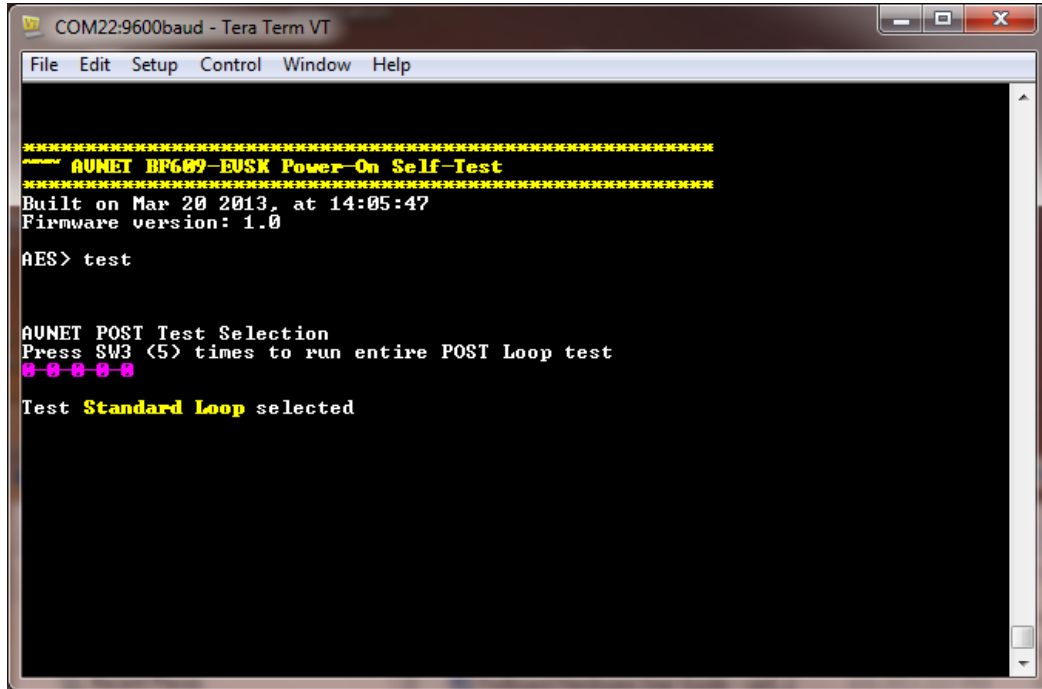

Figure 8: all POST tests selected
1. At the AES> prompt type “test”, press enter and follow the on screen prompts. Pressing SW3 five times will enter five pink zeros as shown in Figure 8: all POST tests selected. This will execute all factory POST tests. The successful POST results are shown in Figure 9: Successful POST screen.